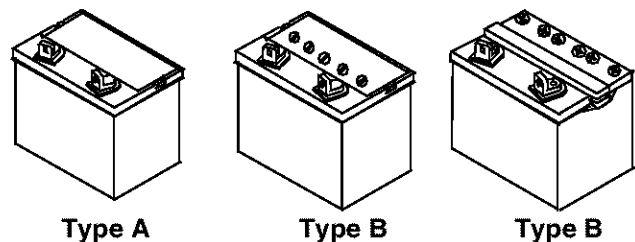

Figure 1
- Compare the battery in your lawn tractor (located under the seat) with Figure 1. Type "A" batteries are activated and are ready to use. Type "B" batteries must be filled with battery fluid (acid) and charged before they are put into service. Follow pertinent instructions.